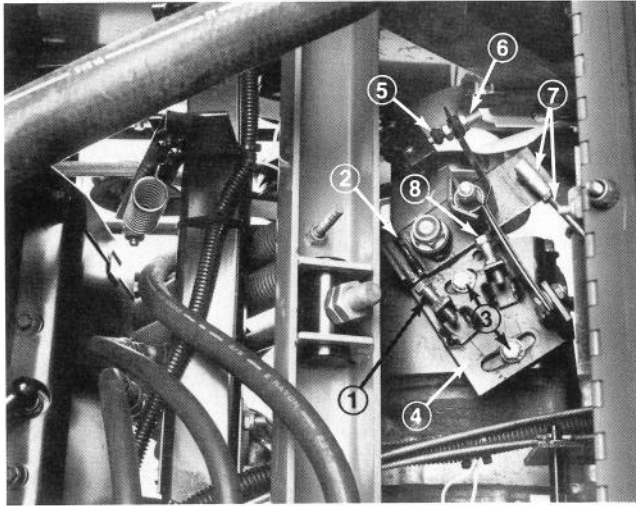

Figure 24
3. Loosen two capscrews securing traction plate so plate is free to move (Fig. 24).
4. Start engine and rotate traction plate (Fig. 24) in either direction until wheel ceases rotation.
5. Stop engine and tighten capscrews to secure traction plate (Fig. 24).
8. Adjust traction cable or ball joints (Fig. 24) as required to attain a $4.00'' \pm .25''$ dimension from tip of traction pedal to footrest, when pedal is in neutral position.
9. Loosen jam nut on rear stop screw and thread screw into bracket (Fig. 24).
10. Depress front of traction pedal, rotating traction lever (Fig. 24) counterclockwise, until lever stops. While holding pedal down, back out stop screw until it contacts traction lever, then back out screw two additional turns. Tighten jam nut.
11. Loosen jam nut on front stop screw and thread screw into bracket (Fig. 24).
12. Depress rear of traction pedal, rotating traction lever (Fig. 24) clockwise, until lever stops. While holding pedal down, back out stop screw until it contacts traction lever, then back it out two additional turns. Tighten jam nut.